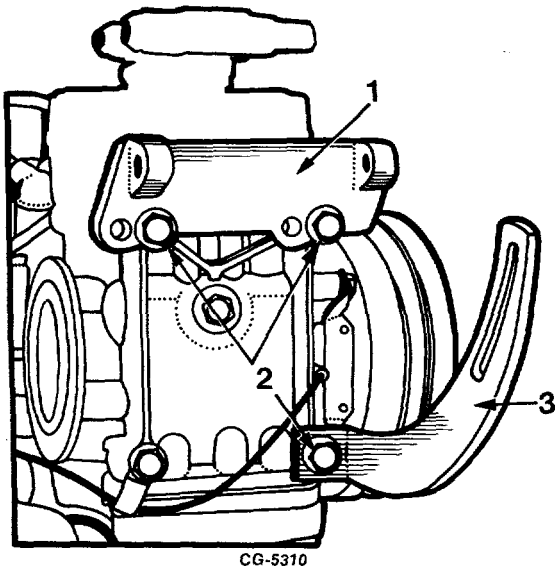

Fig. 17 Removing Air Pump Brackets
12. Remove air pump mounting brackets by removing bolts and flat washers. Remove adjusting strap and spacer by removing bolt and flat washer, Figure 17.